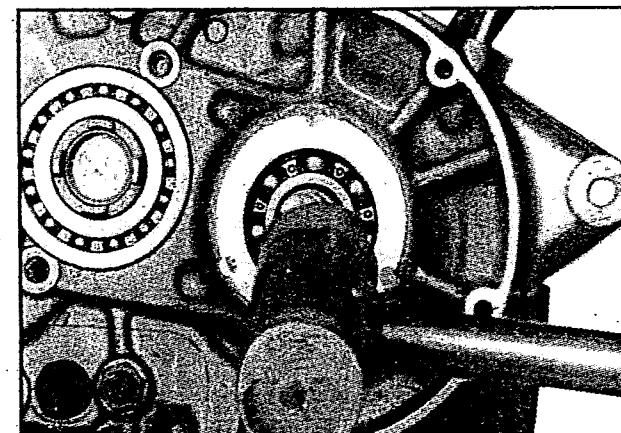

Fig 3.43
- Remove the crankshaft by using the plastic hammer (fig 3.43)